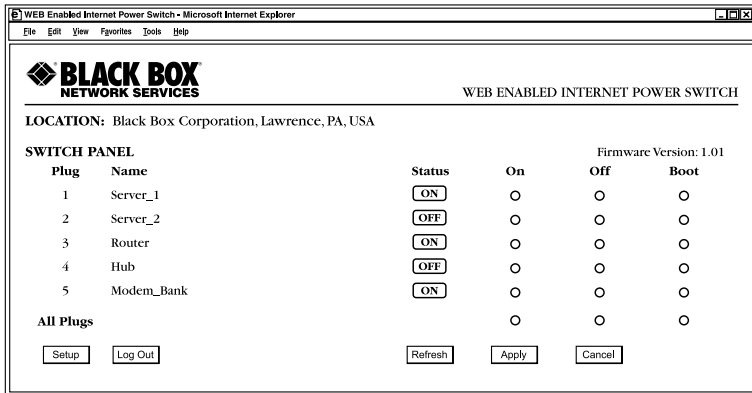

Figure 6-1. Plug Status menu (Web browser interface).
When you log on to the IPS command mode via the Web browser interface, the Plug Status screen (or switch panel) displays. This screen (see Figure 6-1) lists the current status of the IPS's switched outlet(s) and provides a series of buttons that control on/off/boot switching of the outlet(s).
2. When the Plug Status screen (see Figure 6-1) appears, note that the screen includes a status field and on/off/boot controls for every satellite that was connected at the time that the master was powered on.